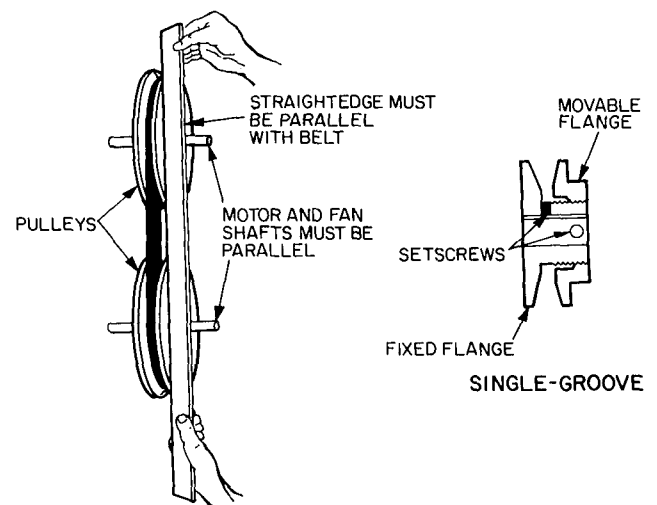

Fig. 12 — Evaporator-Fan Pulley Adjustment
3. Loosen movable pulley flange setscrew (see Fig. 12).